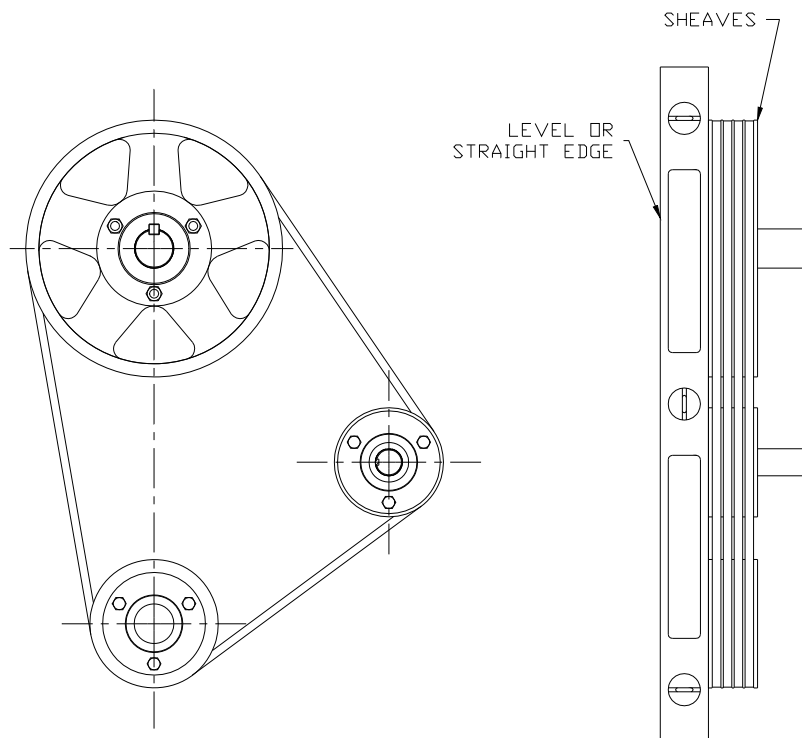

FIG 31
1. All sheaves MUST be aligned correctly to ± 0.0625 , or premature belt failure may occur. Use a long level to check sheave alignment (see Fig 31).